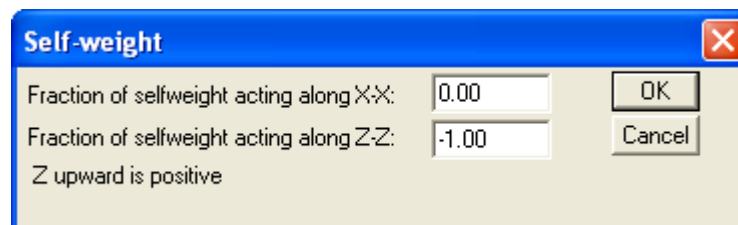

FIGURE 2.20-3
- Click on Add selfweight  tool. The dialog window shown in **Figure 2.20-3** opens.